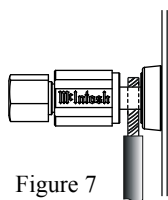

Figure 7
8. Connect the Loudspeaker hookup cables to the MC302 COM (Negative) Output Terminal and Positive Output Terminal indentified as 2Ω (ohms), 4Ω (ohms) or 8Ω (ohms) connection to match the impedance of the Loudspeaker, being careful to observe the correct polarities. Insert the spade lug connector or prepared section of the cable end into the terminal side access hole, and tighten the terminal cap until the cable is firmly clamped into the terminals so the lugs or wire cannot slip out. Refer to figures 7 and 8.
lug connector or prepared section of the cable end into the terminal side access hole, and tighten the terminal cap until the cable is firmly clamped into the terminals so the lugs or wire cannot slip out. Refer to figures 7 and 8.